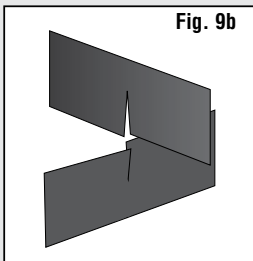

Fig. 9b
- Assemble Blackout Paper as shown. (Fig. 9b and 9c)